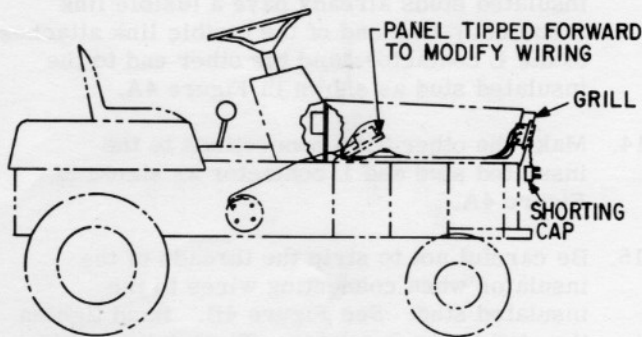
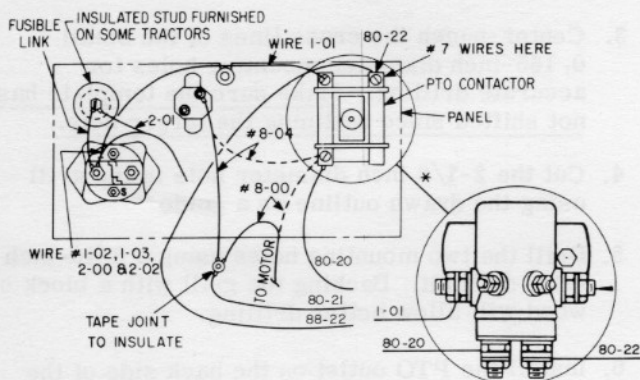

Figure 1
Figure 4A
8. Lower the upper control panel so its mounted components are exposed (see Figure 1) and locate the PTO contactor, which is mounted on the right end of the panel. See Figure 4A.
and replace it with the insulated stud assembly provided as shown in Figures 4A and 4B. On other models the insulated stud assembly is already present, and the one furnished in the kit is not required.
9. Remove wire 8-00 (8 AWG) and 8-04 (10 AWG) from the PTO contactor and join them together with wire 80-21 from the PTO outlet with a 1/4-20 bolt, lockwasher, and nut. See Figure 4A. Make sure the nut is tight, and wrap the entire connection in several layers of electrical tape.
10. Connect wire 80-20 from the PTO outlet to the PTO contactor terminal where wires 8-00 and 8-04 have just been removed. See Figure 4A. Do not disturb wires 8-01 and 8-02.
11. Connect wire 80-22 from the PTO outlet to the PTO contactor terminal already connecting wires numbered 7. See Figure 4A.
13. Discard wire 1-00 between L contactor and CB-3 (if previously equipped) and replace it with the fusible link supplied. (Models with insulated studs already have a fusible link installed.) One end of the fusible link attaches to the L contactor, and the other end to the insulated stud as shown in Figure 4A.
14. Make the other wire connections to the insulated stud and L contactor as shown in Figure 4A.